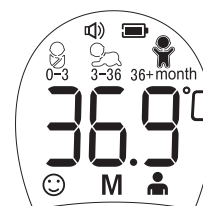

Figure 11
- The thermometer will automatically memorize the last 30 temperature readings. Each memory also records the measurement mode and age range icon. Each time the *Memory Button/Age Button* is pressed, the screen displays past readings that correspond with a number 1-30. The number 1 reflects the most recent reading, while the number 30 reveals the oldest reading stored in memory. (See Figure 11)